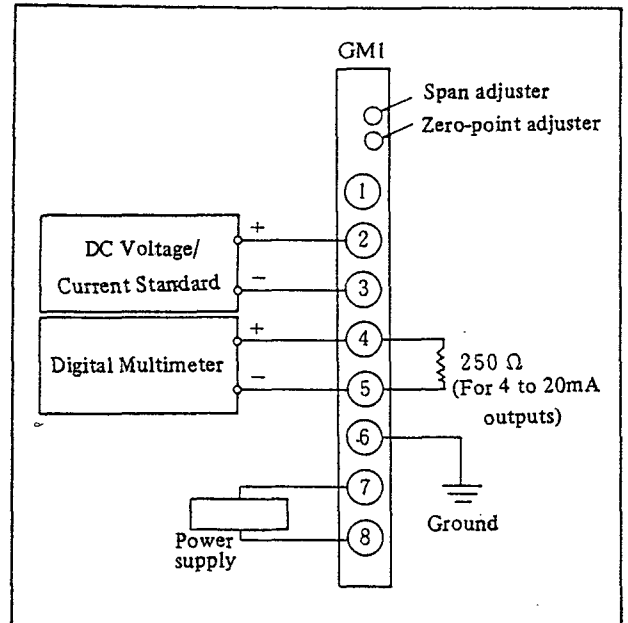

Figure 5. Connection of Calibration Instruments
- (1) Connect each instrument as shown in Figure 5.
- (2) Check input/output characteristics.